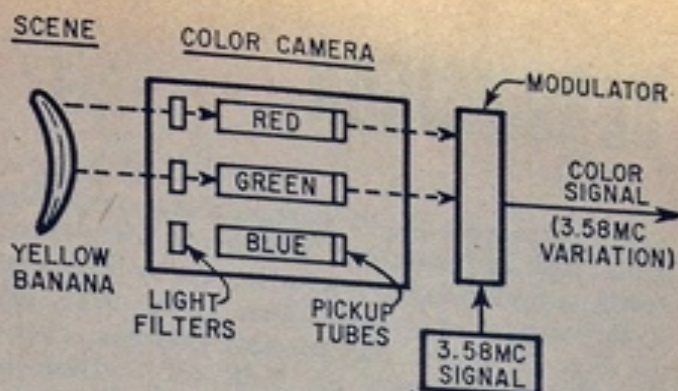

Fig. 2. TV camera breaks scene into primary colors—converts them to electrical signals.
**The Color TV Camera.** The drawing in Fig. 2 reveals a color-separating action of the studio camera. Based on a system of primary colors, the camera is seen in three distinct sections. Each responds to a different color; red, green or blue. There are, of course, many more than three hues in a
scene. The human eye, in fact, can discern up to about 40,000 different ones. But just as the artist mixes primary colors to gain countless combinations so does color TV rely on a tri-color system to handle a huge number of hues. The color camera, however, achieves a neat trick that would befuddle the artist. It begins with a *complete* picture (the scene to be televised), then breaks it down into three primary colors. You demonstrate the principle everytime you look through a piece of colored glass or cellophane. If it's tinted red, for example, only the red content of the scene filters through. Thus, the camera in Fig. 2 has red, blue and green filters—equivalent to primary colors—for dividing many colors in the scene into their simplest form.
color receivers to be compatible, color signals must not interfere with black and white. This is done by side-pocketing color information on its own carrier. This is the 3.58 mc in Fig. 2. In the modulation process, color signals are encoded on 3.58 mc, which is subsequently rejected by black and white sets. The Chromatron, however, utilizes it in a unique image-producing system.